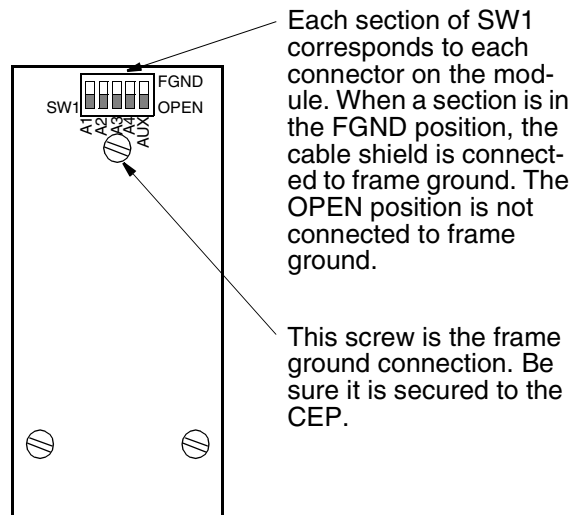

Figure 4. Reference and PSM/C Input Module Switches
- PSM/C input modules (Figure 4): The sections of SW1 determine whether the shield of the associated connector is connected to ground at the DCD Shelf. The OPEN position holds the shield disconnected from ground.